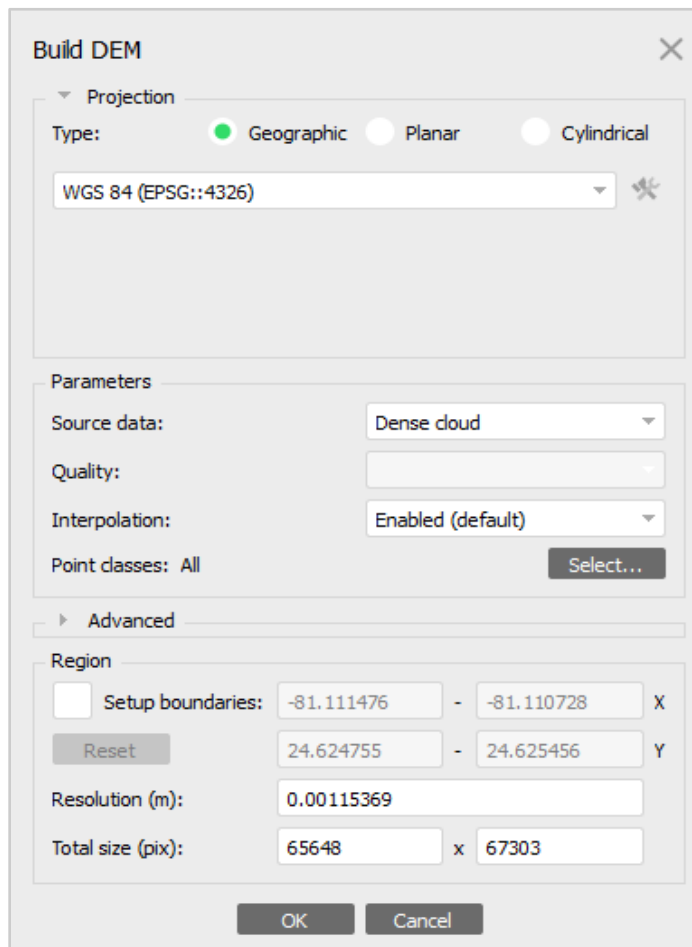

Figure 30. Build DEM window indicating that `Resolution (m)` is positive and in the correct range.
7. Check the `Resolution (m)` value to be sure it is a positive number within the appropriate size range (i.e., in the range of positive millimeters). Negative values result in erroneously small DEMs and orthomosaics. Right-click on the `DEM & Orthomosaic` chunk, select `Process`, and then `Build DEM`. A new window called `Build DEM` will appear (Figure 30). If `Resolution (m)` is positive and within the appropriate size range (Figure 30), close the `Build DEM` window by clicking `Cancel`, and move on to build the DEM using script or non-script. If the `Resolution (m)` value is negative or larger than the appropriate size range, there is an issue with scale, or a step was missed prior to SPC optimization and error reduction. Scale bars must be manually added to resolve this issue. Manually adding scale bars using the existing scale bar markers provides the correct scale to the model and is detailed below.